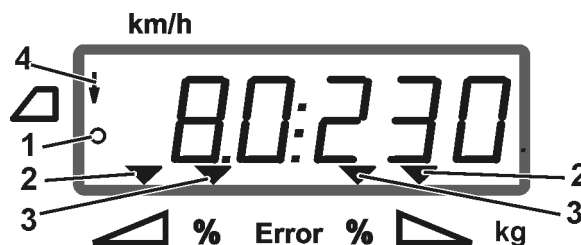

Fig. 6
- the **AMADOS+** is receiving the pulses for distance calculation (Fig. 6/1),
- the slide gates are open (Fig. 6/2).
- Boundary spreading is indicated by an arrow in the display (Fig. 6/4).
- In the work display, the triangle symbols (Fig. 6/3) indicate a spread rate change.